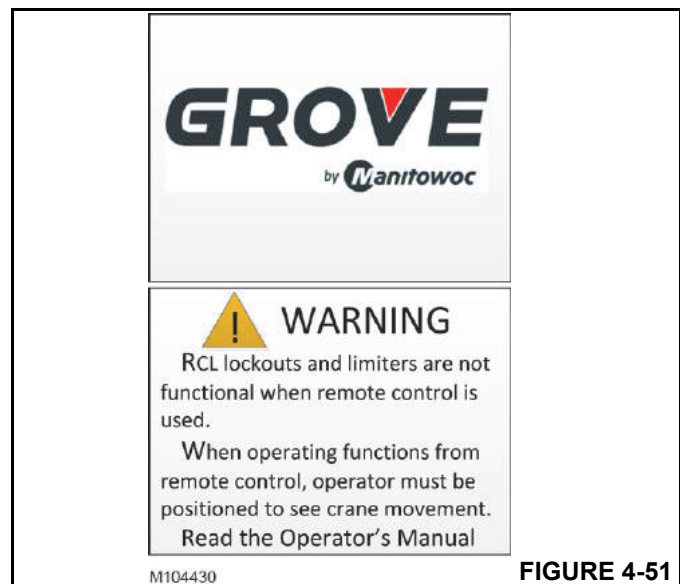

FIGURE 4-51
9. The SPLASH screen will appear for a few seconds, followed by the WARNING screen (Figure 4-51).